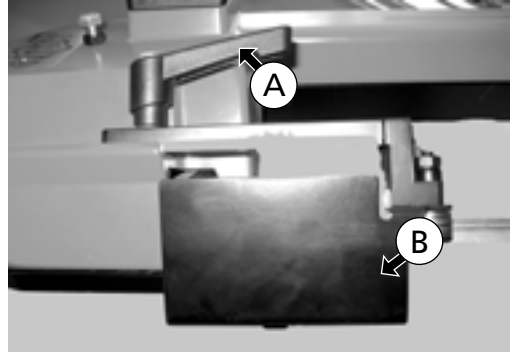

Fig. 48
3. Loosen the handle (A) and lower the cutting blade guide (B) and the front cover to the utmost (Fig. 48).